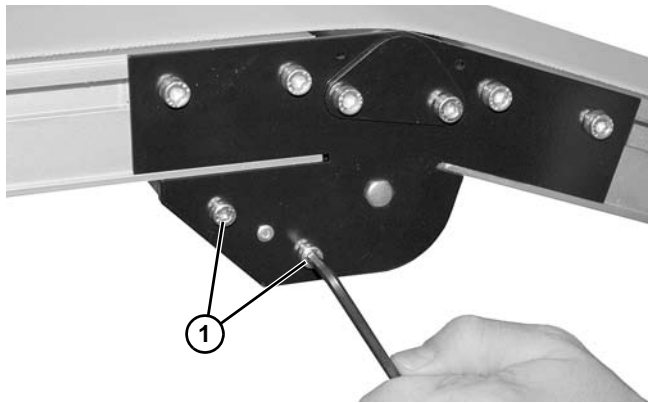

Figure 132
1. Remove screws (Figure 132, item 1) on both sides of conveyor.